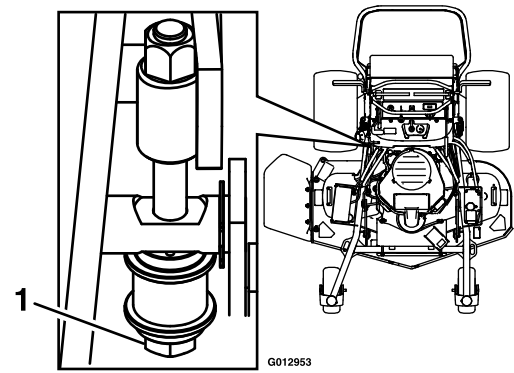

Figure 27
6. If it does not measure correctly, locate the height-of-cut rod on the right side of the machine (see Figure 27).